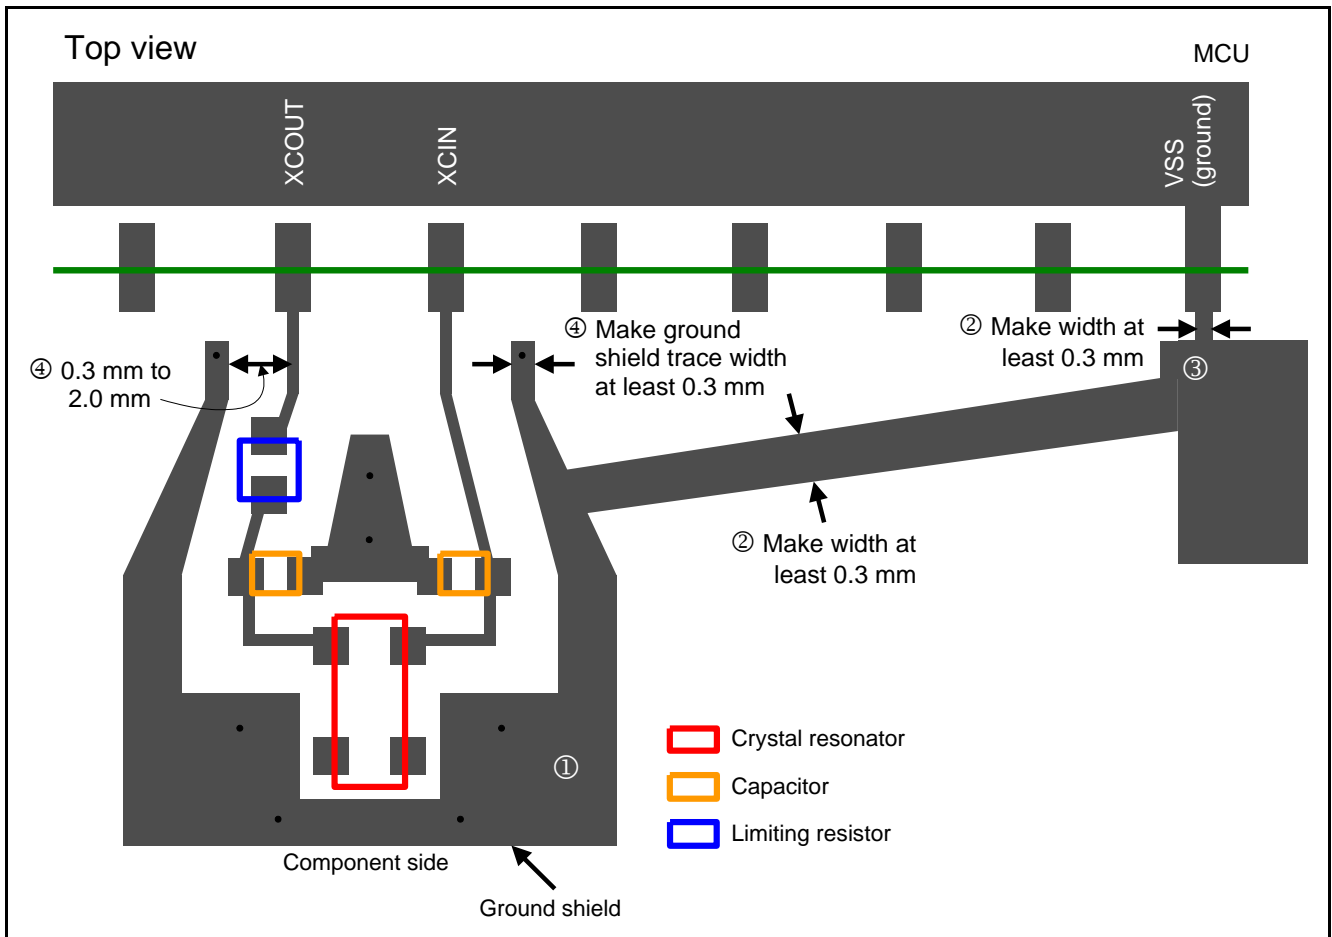
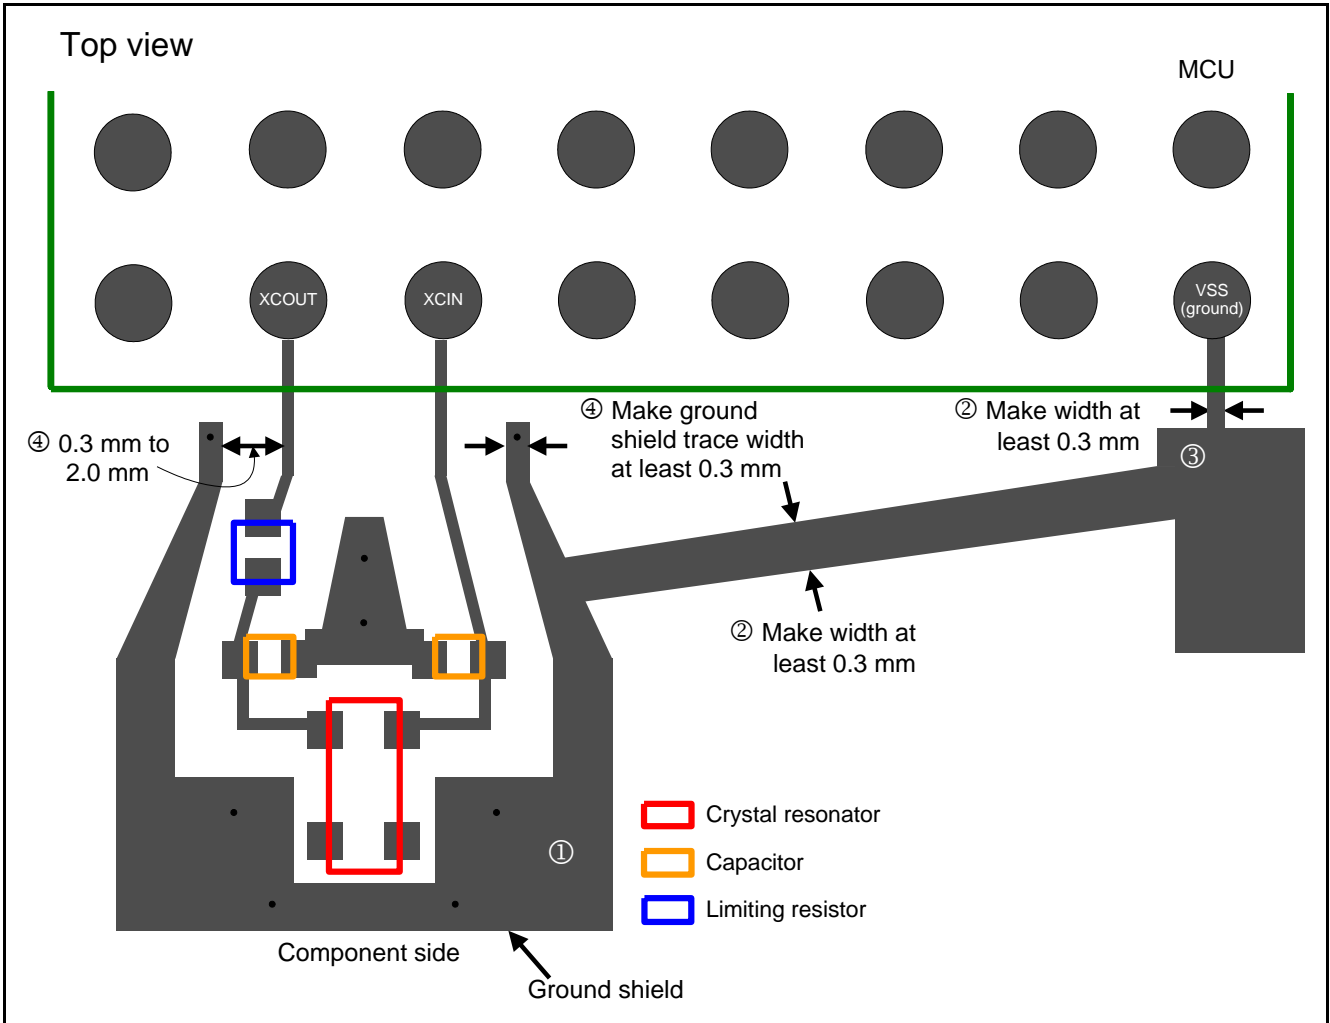

Figure 1.4 Trace Example for the Ground Shield When Using LQFP, LFQFP, and HWQFN Packages
Figure 1.5 Trace Example for the Ground Shield When Using the WFLGA and TFLGA Packages
Shield the crystal resonator with a ground trace. ① to ④ below describe the points regarding the ground shield. Figure 1.4 and Figure 1.5 show trace examples.
- ① Lay out the ground shield on the same layer as the crystal resonator wiring.
- ② Wire the ground shield as close to the VSS pin on the MCU as possible, and ensure that the wire width is at least 0.3 mm.
- ③ To prevent current from running to the ground shield, branch the ground shield and the ground on the board near the VSS pin on the MCU.
- ④ Make the ground shield wire width at least 0.3 mm, and leave a 0.3 to 2.0 mm gap in between wires.